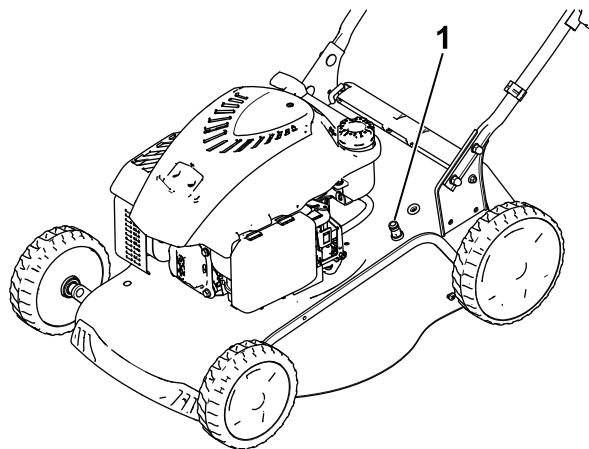

Figure 18
5. Attach a garden hose that is connected to a water supply to the quick-wash port (Figure 18).